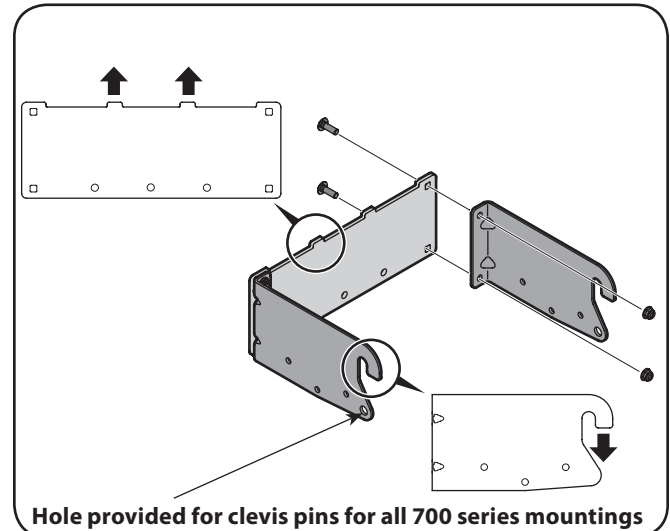

Figure 4-4
1. Attach the two hitch side brackets to the universal rear attachment bracket using four hex bolts and flange lock nuts. With the hooks on the hitch side brackets pointing down, the tabs on the hitch plates should be pointing upwards. See Fig. 4-4.
Note: Install two clevis pins through the mounting assembly and secure to the 700 series mounting brackets installed earlier with click pins provided in the hardware pack. Refer back to Fig. 4-4.